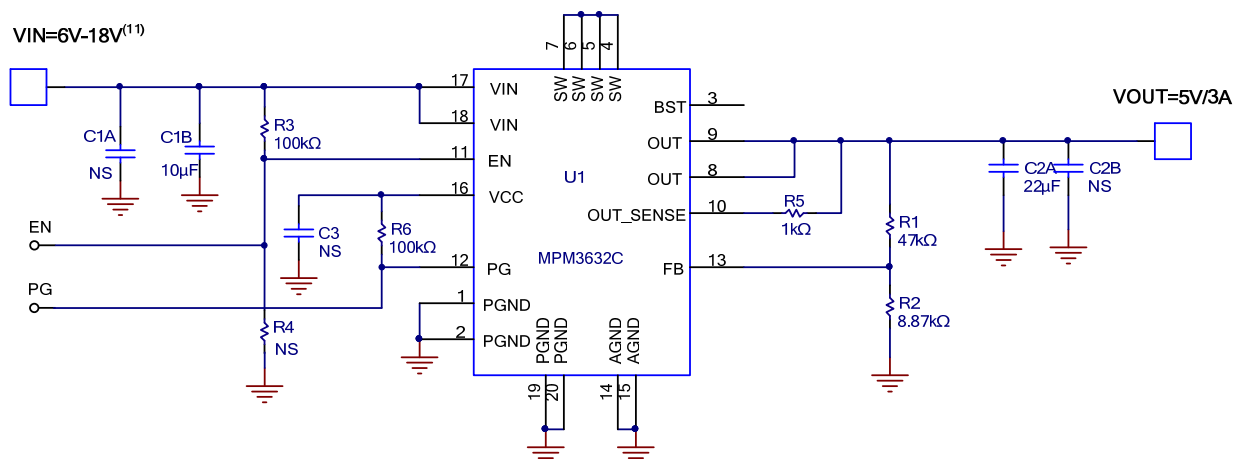

Figure 8: 5V Output
- 10) The recommended layout is based on Figure 8 through Figure 15.